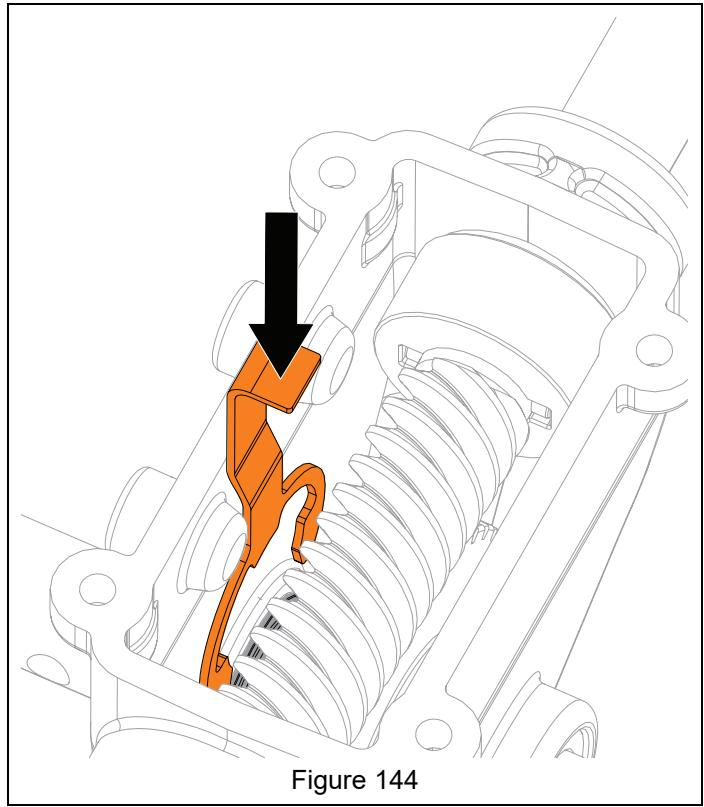

Figure 144
- Reinstall bushing retainer into flange bushing groove. See Figure 144.